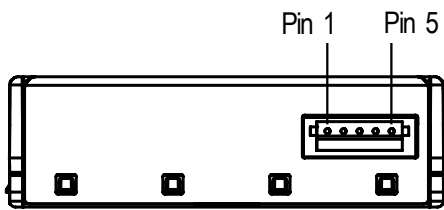

Figure 3 The communication interface connector (type: S5B-ZR-SM4A-TF(LF)(SN)) is located at the side of the sensor opposite to the air outlet.
The sensor is equipped with a serial communication interface. The interface connector S5B-ZR-SM4A-TF(LF)(SN) is located at the side of the sensor opposite to the air inlet/outlet. Corresponding male plug is ZHR-5 from JST Sales America Inc. In Figure 3 a description of the pin layout is given.